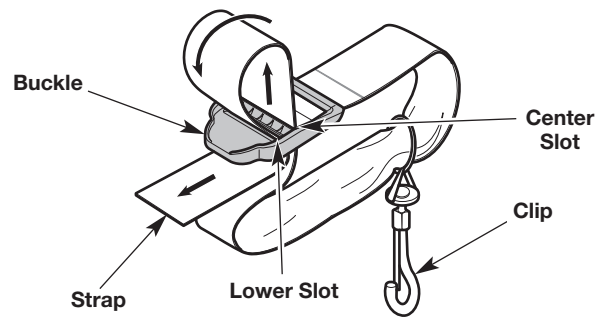

Fig. 7
1. Push the strap up through the center slot in the buckle (Fig. 7).
2. Bend the strap over and push it down through the lower slot in the buckle (Fig. 7).